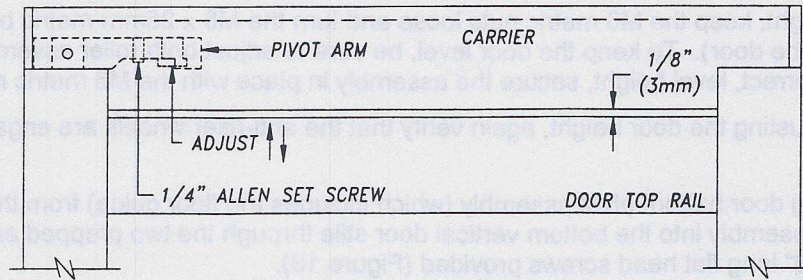

FIGURE 17: Door/Carrier Adjustment
9. Next, break open the door and panel. Slowly close the door and check the clearance between the top of the door and the bottom of the carrier. If the clearance is not 1/8" (3mm), loosen the 1/4" (6mm) allen head set screw at the bottom of the carrier. Adjust the clearances as required by turning the large allen head bolt. After setting the correct clearance, re-tighten the 1/4" (6mm) allen head set screw (Figure 17).